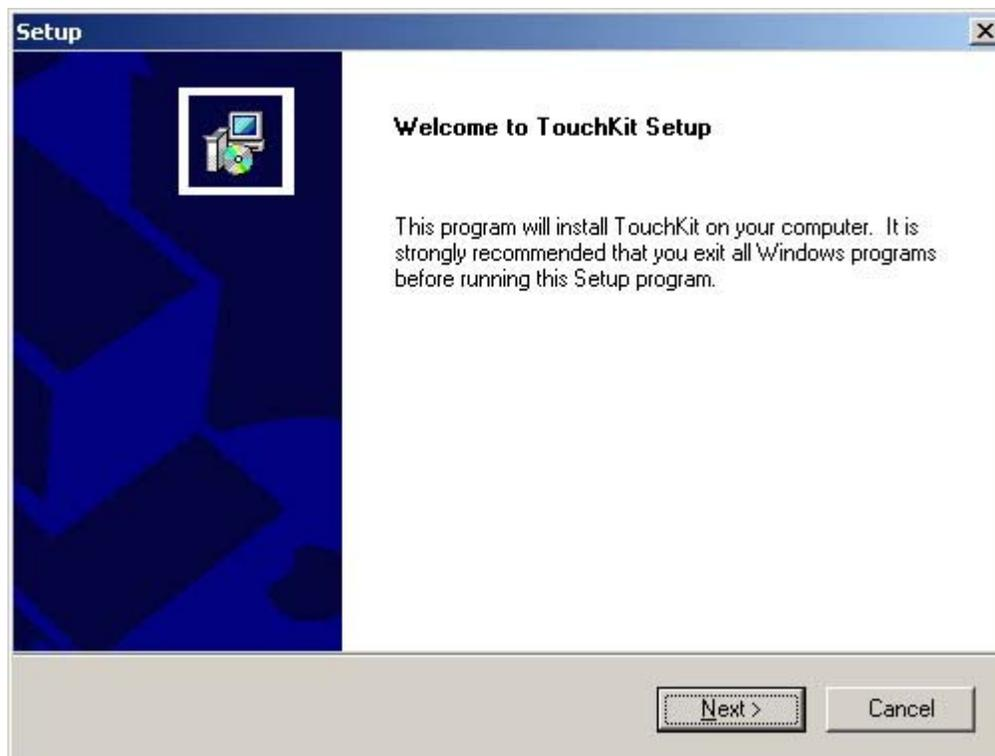

Figure C-3: Welcome Screen
Step 5: After the **Install Shield Wizard** is ready, a welcome screen appears (Figure C-3).